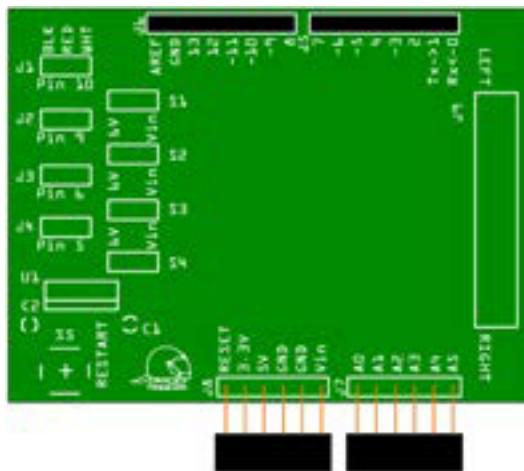

Figure HT3-5. Location to insert 6-pin stacking headers
- In a similar manner, insert and solder the two 6-pin stacking headers into the positions marked J7 and J8, as shown in Figure HT3-5.